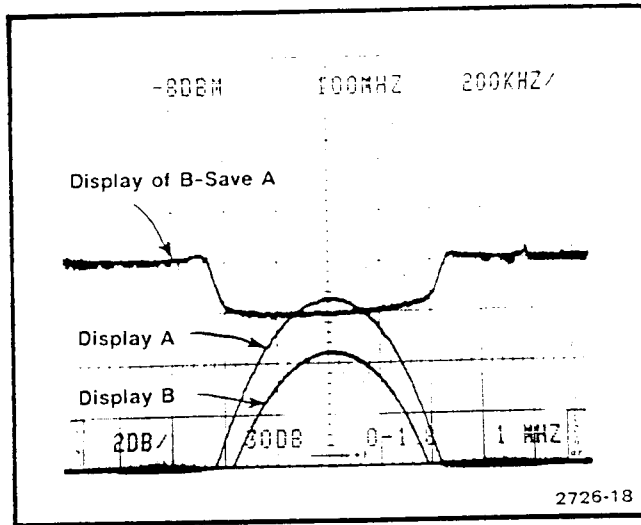

Fig. 3-8. Using Digital Storage to measure differential between two displays.
d. Activate B-SAVE A and check display. Display should show the difference between display B and display A (see Fig. 3-8).